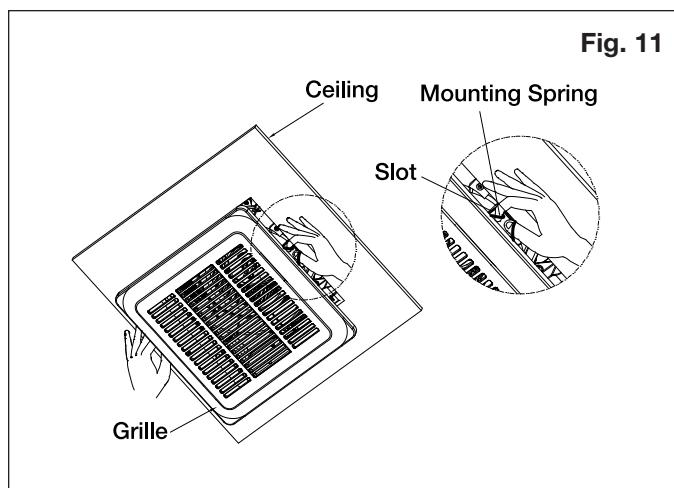

Fig. 11
1. Remove grille. Squeeze mounting spring and pull down carefully. See Fig. 11.